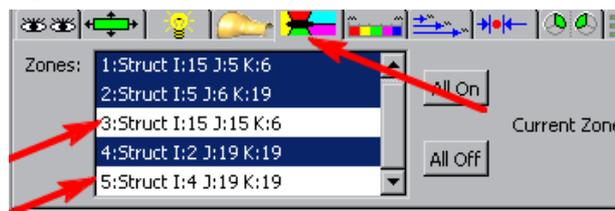
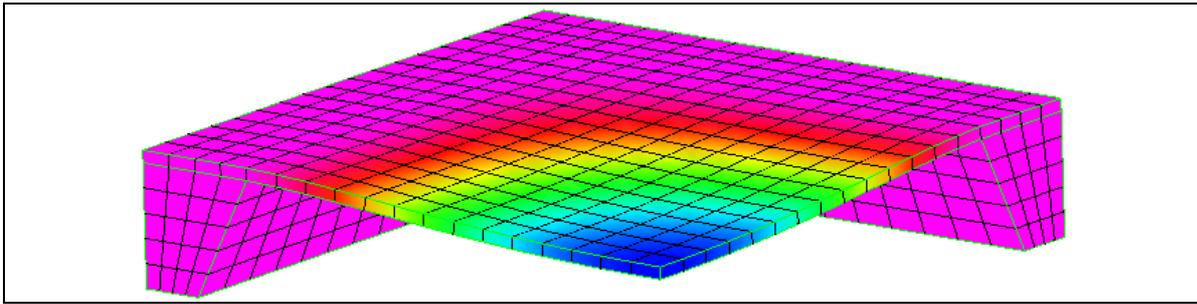

Fig.68. The Zone Display tab of the format area – here you can make appropriate regions of the model invisible
Fig.69. The view of the model – air regions disabled
- As we can see, the air areas over and below the membrane cover its view. These areas can become hidden. Select object named *Geom* in the *Objects* window. Under the *Zone Display* tab in the format area select the *Zones* window (see Fig. 68). In this window find both areas of the air (under and over the membrane) in the list and deselect them. After this operation our model looks as in Fig. 69.